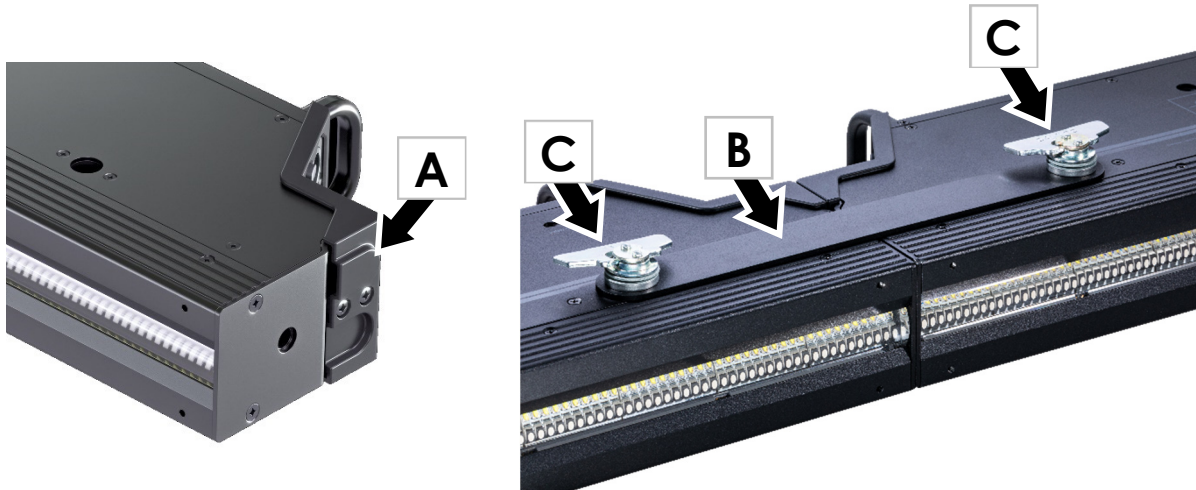

Figure 5. JDC Alignment Bracket
1. See Figure 5. Place the fixtures on a flat surface with enough space for the fixtures to lie end-to-end. Slide the ends of the fixtures together so that the alignment profiles **A** engage.